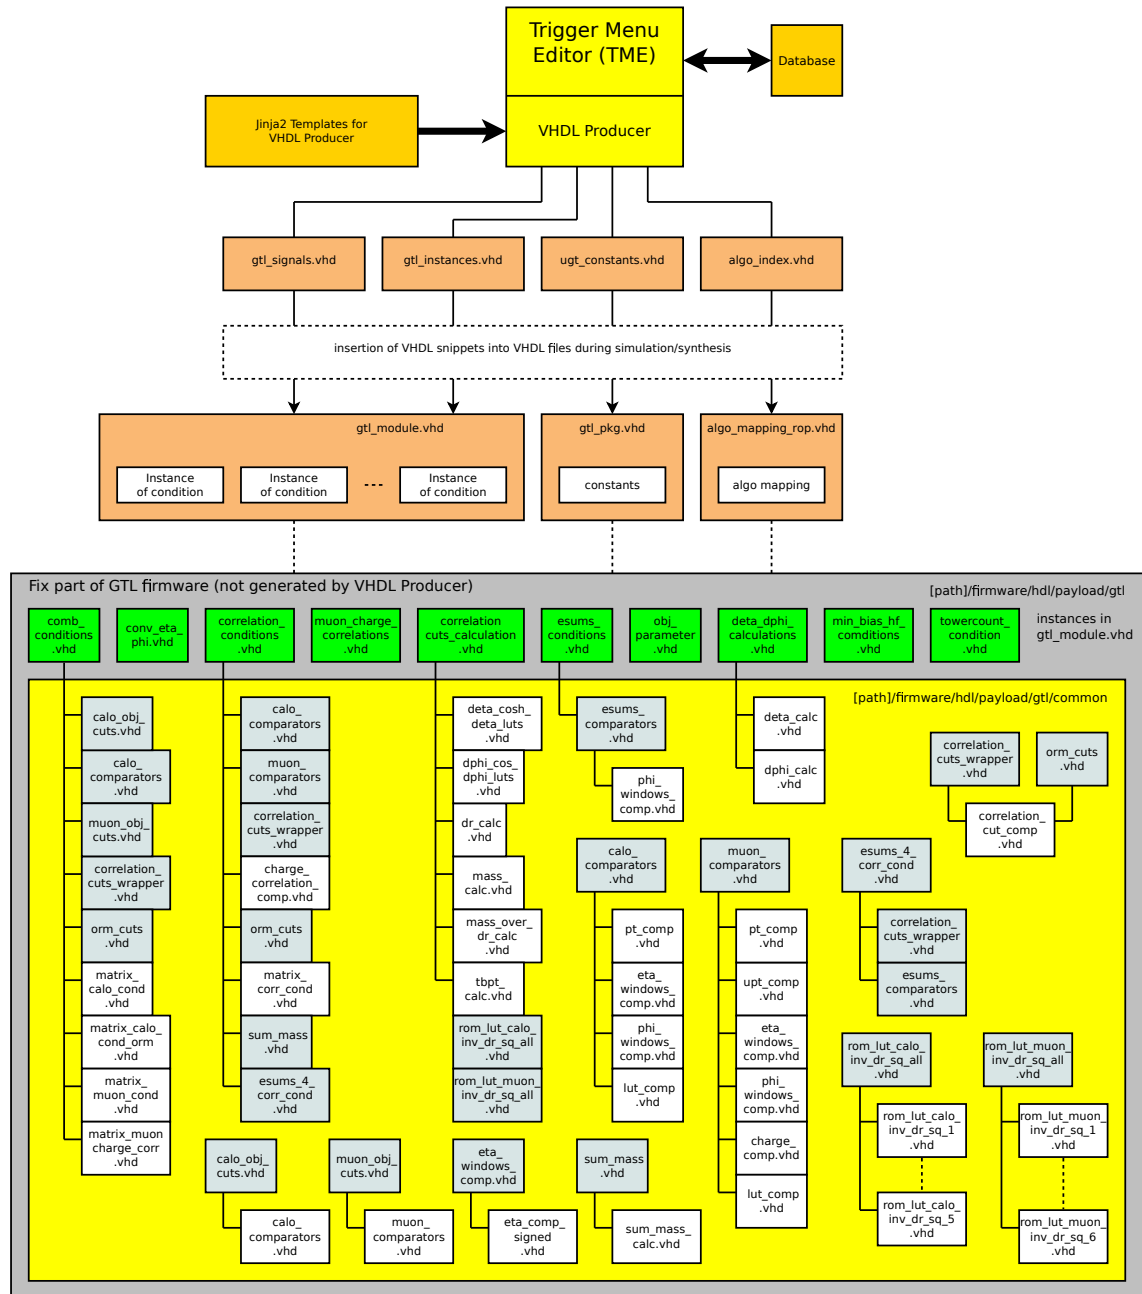

Figure 8: VHDL file generation by VHDL Producer
- A top-of-hierarchy file (`gtl_module.vhd`), which contains the pipeline for  $\pm 2bx$  data, the instantiations of calculators for differences in  $\eta$  and  $\varphi$ , the instantiations of conditions, the instantiations of charge correlation logic of muons and the Algorithms logic for 512 Algorithms, as well as a package file (`gtl_pkg.vhd`) for declarations. Currently 6 AMC (MP7) boards are used to contain Algorithms. A software tool called Trigger Menu Editor (TME) [3] is available to create a L1Menu with up to 512 Algorithms, which are partitioned by VHDL Producer [4] to the 6 MP7 boards. The VHDL Producer for every Trigger Menu creates VHDL snippets files (`algo_index.vhd`, `gtl_module_instances.vhd`, `gtl_module_signals.vhd`, `ugt_constants.vhd`), these snippets are inserted into templates for `gtl_module.vhd` (`gtl_module_tpl.vhd`) and `fdl_pkg.vhd` (`fdl_pkg_tpl.vhd`) during simulation and synthesis (see Figure 8).